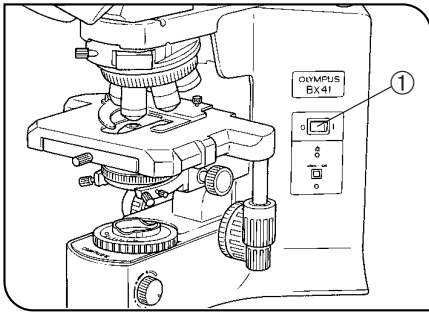

Fig. 1
(Fig. 1)
3. To avoid potential shock hazards and burns when replacing the light bulb, set the main switch ① to "○" (OFF) then disconnect the power cord from the wall outlet in advance. Whenever you replace the bulb during use or right after use, allow the lamp socket ② and bulb to cool before touching. (Figs. 1 & 2)